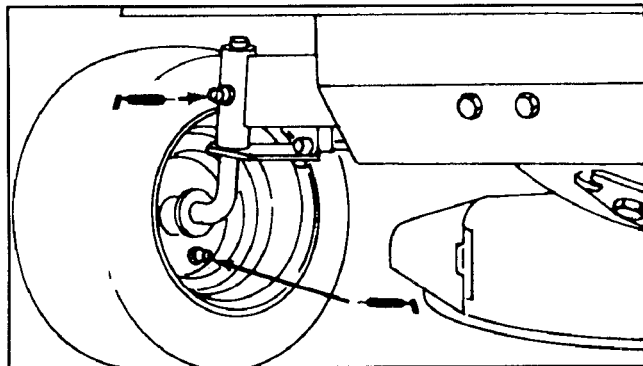

Figure 12
1. Wipe (4) grease fittings on the spindles and wheels (Fig. 12) with a clean rag. If there is paint on the front of the fittings, scrape it off.
2. Lubricate both axle spindles w/No. 2 general purpose grease (Fig. 12). Continue to pump grease until it oozes out the spindle. Wipe up any excess grease.
3. Lubricate both front wheels w/No. 2 general purpose grease (Fig. 12). Pump the grease gun until grease oozes. Wipe up any excess grease.